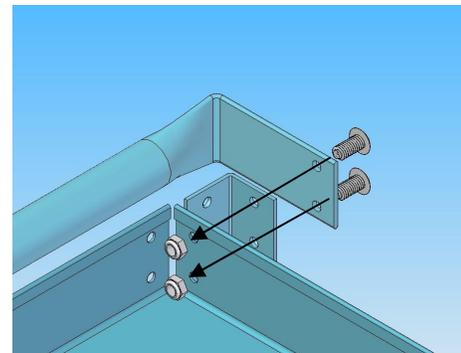

Fig 2.1
- To Secure the Handle you must use 4 M6x20 with 4 M6 Nylon Insert Hex Locknut as seen on Fig 2.1